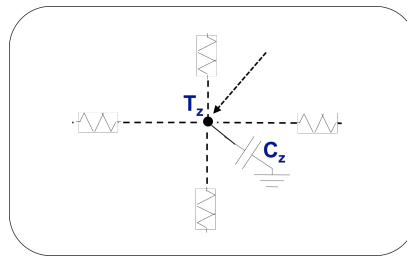

Figure 2.2: Use this simple template to get started and complete the RC graph for zone SPACE3-1.
- **[P2-1.a]** Draw and submit the RC network model structure for the zone under consideration. Start with the simple RC network structure (Fig 2.2) and add elements (thermal resistance, thermal capacitance, thermal nodes) to build the RC graph for zone SPACE3-1.